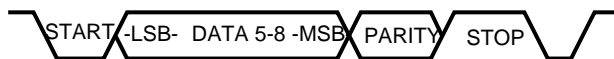

FIGURE 7-2. Composite Serial Data
- Format conversion between the internal parallel data format and the external programmable composite serial format. See Figure 7-2.
The composite serial data stream produced by the UART is illustrated in Figure 7-2. A data word containing five to eight bits is preceded by start bits and followed by an optional parity bit and a stop bit. The data is clocked out, LSB first, at a predetermined rate (the baud rate).